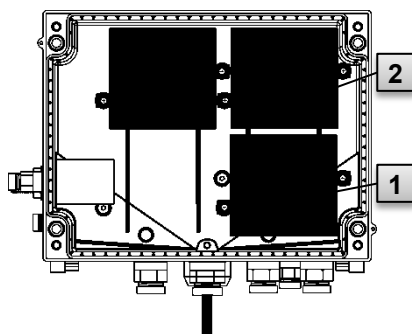

Fig. 30
4. Loosen the screws on the battery cover Fig. 30: **1** or **2** and remove the battery cover.
7. Place the new batteries inside (Fig. 30: **1** or **2**).